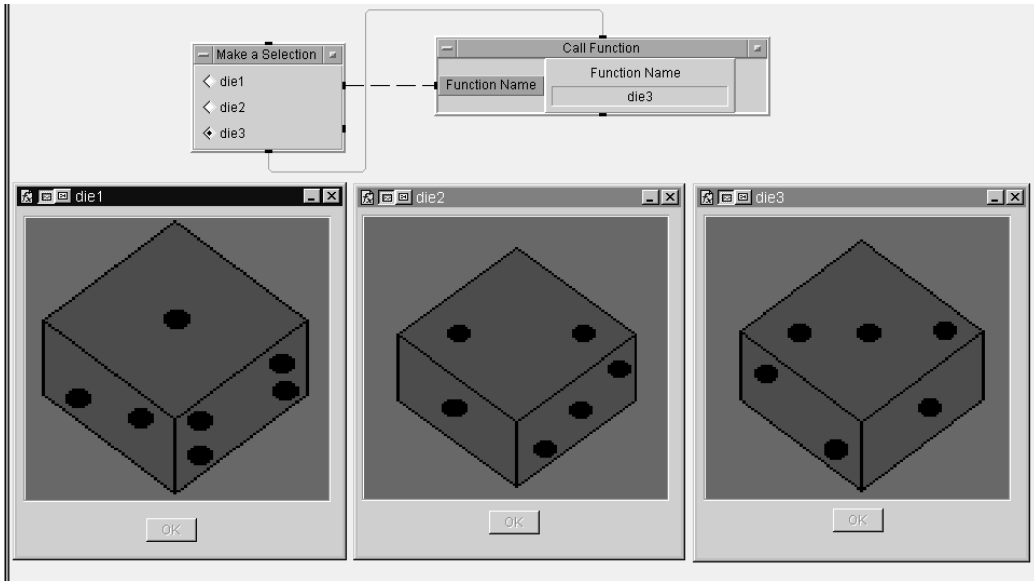

Figure 16.9. Detail view of the dice program
27. Connect the Radio Buttons sequence-out (bottom) pin to the sequence-in (top) pin of Call Function. See the top two icons of Figure 16.9.
29. Select the UserFunction Properties box; select Menu Bar => Edit => Add to Panel for each of the three UserFunctions; right-click each picture and resize each die; click OK to store each set of adjustments. See Figure 16.9 above.